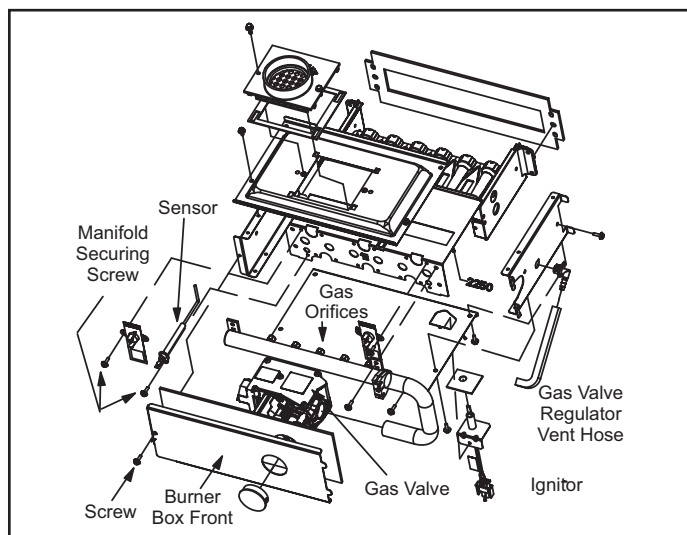
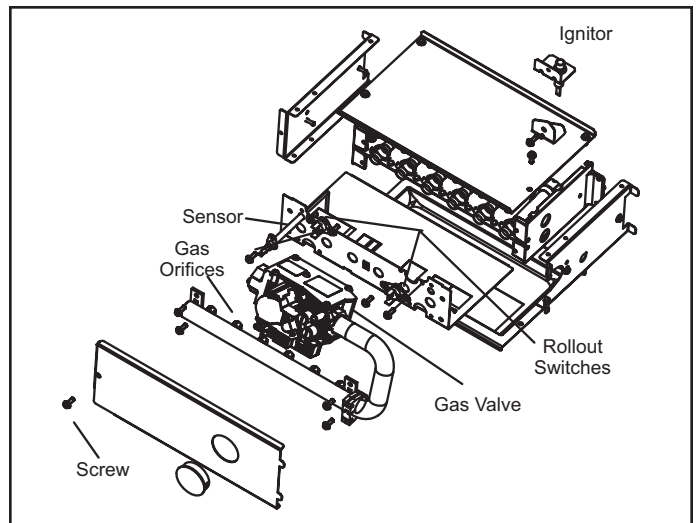

Figure 3. 95% Two-Stage Burner Box Assembly
Figure 4. 80% Two-Stage Burner Box Assembly
4. Remove the screw that secures the burner box front cover and remove front cover (if equipped). See Figure 3 and Figure 4.